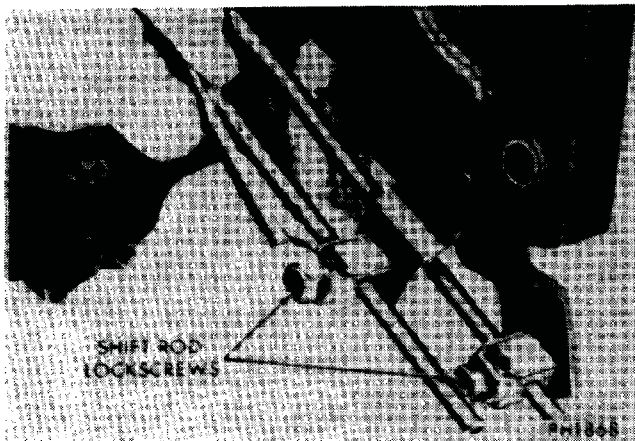

Fig. 5—Loosening Lock Screws
(1) Loosen lock screws in both swivel rod clamps at shifter assembly (Fig. 5). Rods must be free to slide in swivels.